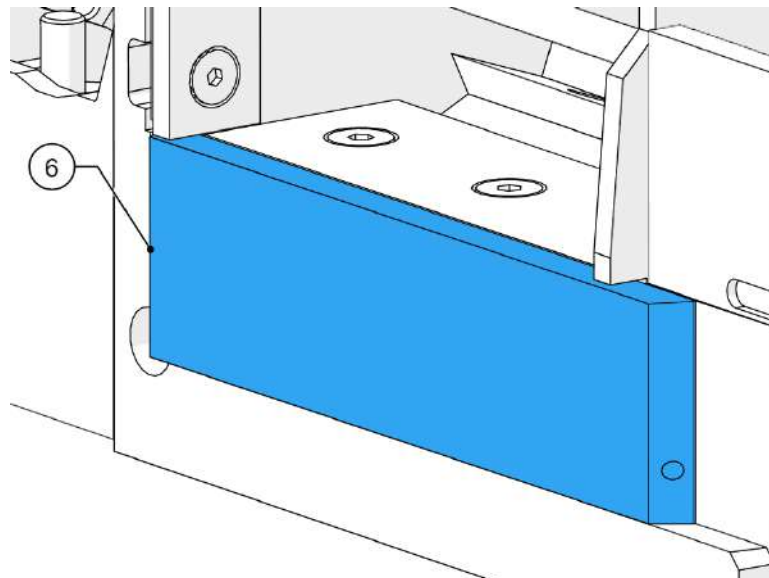

Figure 73 - Anvil in vertical seat
16. Push the anvil into the seat under the side anvil (6, Figure 73).